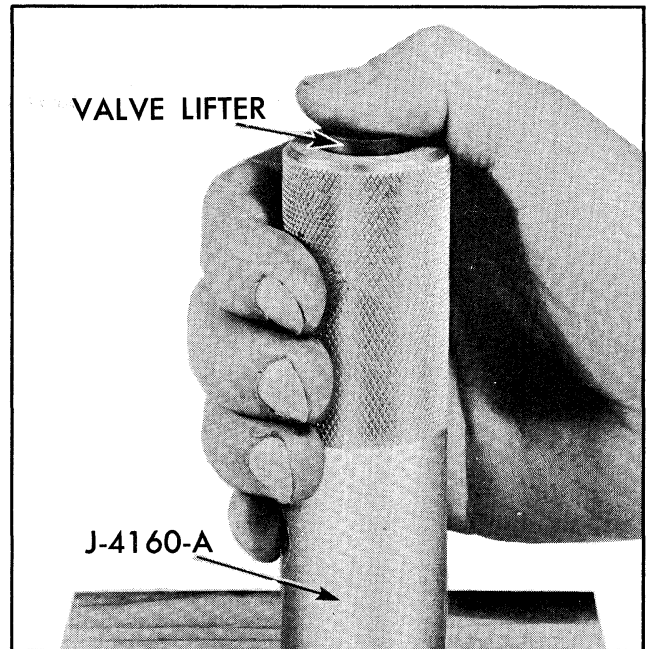

Fig. 6-22 Removing Stuck Plunger
2. Invert lifter and allow push rod seat and plunger to slide out of body. If plunger sticks in body, place lifter in large end of hydraulic valve lifter plunger remover, J-4160-A, with push rod end of lifter downward. Hold tool firmly in hand with thumb over lifter body and sharply strike tool against a block of wood (Fig. 6-22) until plunger falls out.